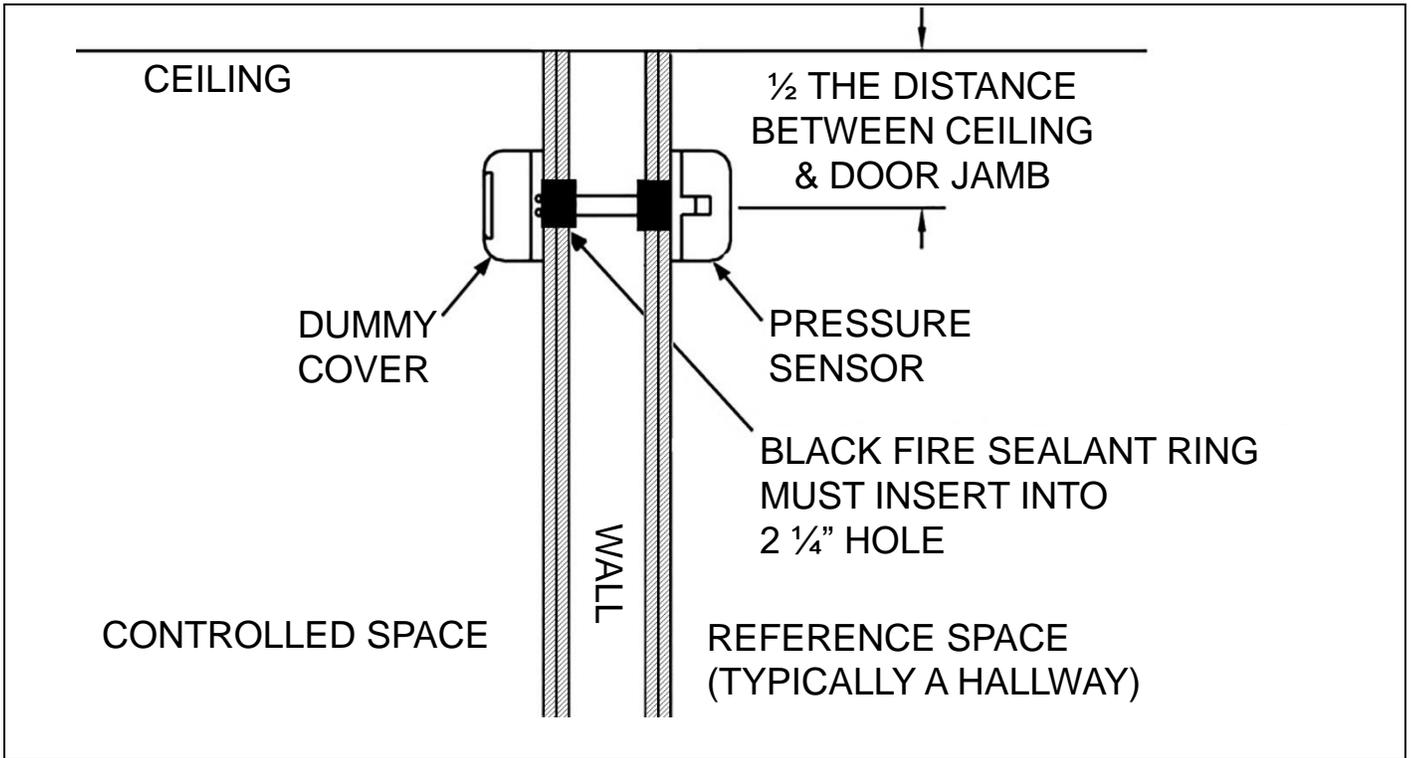
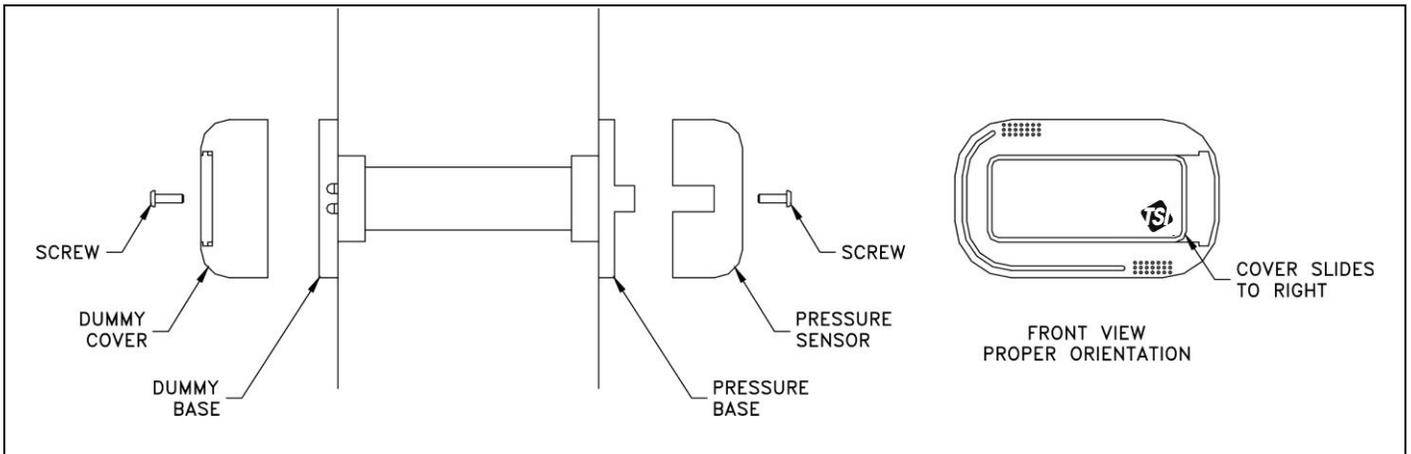

Figure 3: Cutaway View of Mounted Pressure Sensor
Figure 4: Pressure Sensor Mounting
800243/800326 pressure sensor must be mounted through-the-wall between the controlled space (isolation room) and referenced space (hallway), exactly as shown in Figure 3 and Figure 4.
- Determine pressure sensor location (Figure 1, Figure 3, and Figure 4). Pressure sensor typically mounts in the reference space, and the dummy housing mounts in the isolation room.
- From the side of the wall the sensor will be mounted, slide the sensor tube through-the-wall. Slide the dummy base over the end of the tube. Screw the pressure sensor base and dummy base to the wall (Figure 3 and Figure 4).
- Install and screw the pressure sensor and dummy cover onto the bases. Slide covers to the left to hide the sensor. Finished installation should look as shown in Figure 4.